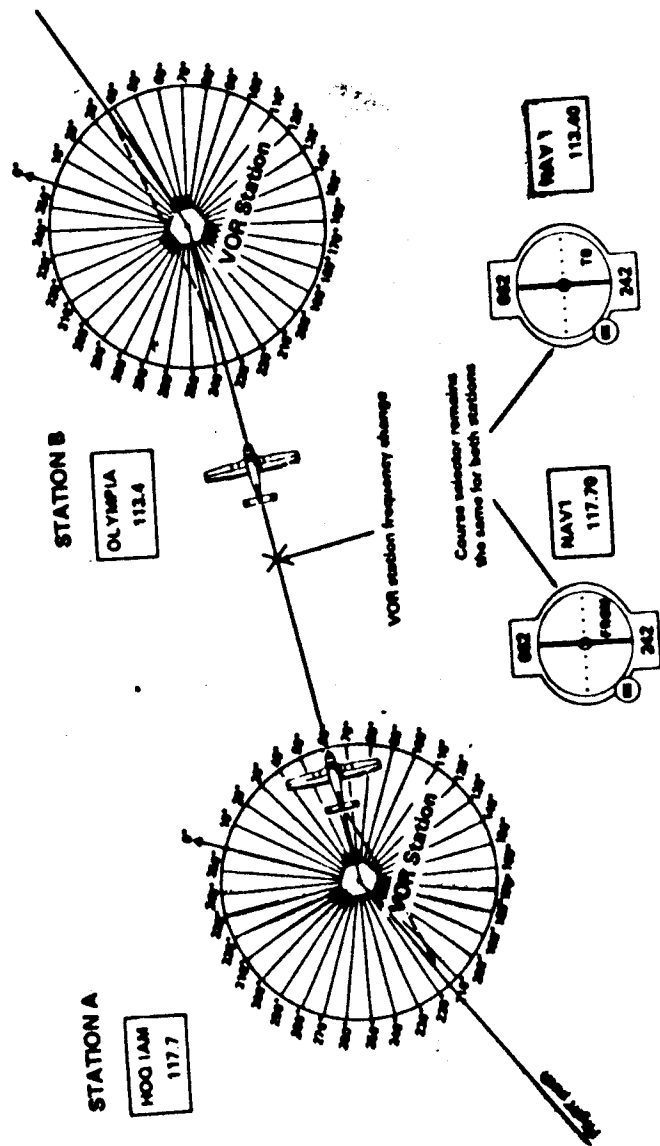

Figure 16. VOR Station-to-Station Navigation
- Select 2 VOR stations that you want to fly between. You will be flying FROM station A TO station B. Draw a line on the map between them (see Fig. 16).